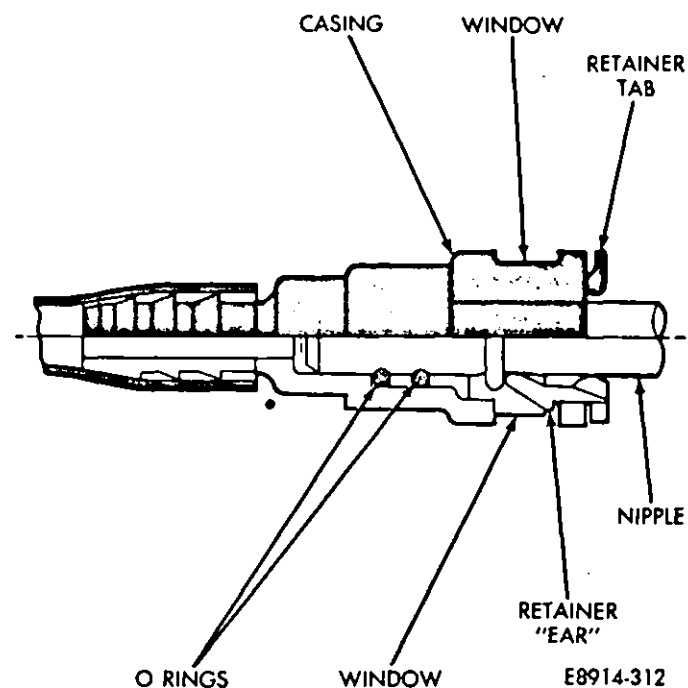

Fig. 14—Quick-Connect Fitting
The quick-connect fitting consists of the O-rings, retainer and casing (Fig. 14). When the fuel tube nipple is inserted into the quick-connect fitting, the shoulder of the nipple is locked in place by the retainer, and the O-rings seal the tube.
(2) Squeeze retainer tabs together and pull quick-connect fitting apart (Fig. 14). Note that retainer tabs stay on the nipple.